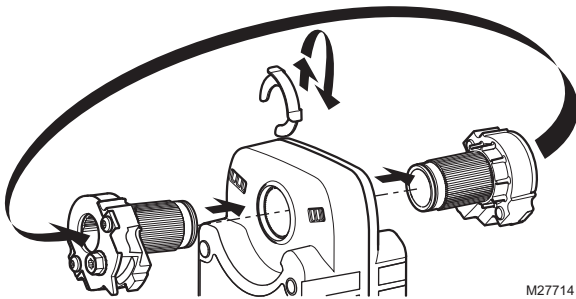

Fig. 30. Change actuator to normally open.
- (1) Change setting of reverse/direct-acting switch, or
- (2) To change spring return direction: remove, flip over, and replace actuator on bracket.
- d. Move the Self-Centering Shaft Adaptor to the opposite side of the actuator, as displayed in Fig. 30.